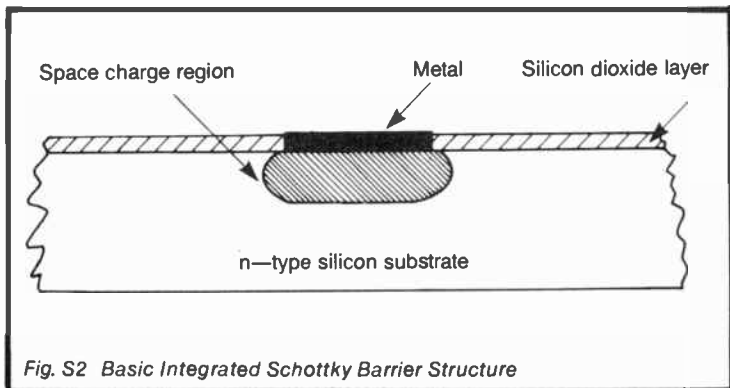

Fig. S2 Basic Integrated Schottky Barrier Structure
**SCHOTTKY DIODE (SCHOTTKY BARRIER DIODE)** is a diode incorporating the rectifying action of a Schottky barrier formed from the junction between a metal and a semiconductor. This type of diode is very suitable for integration, for example, using aluminium as the metal and n-type silicon as the semiconductor. How simple an integration arrangement can be is shown in Figure S2. A forward bias applied to the diode (positive to the metal) lowers the barrier height and so allows majority carriers with sufficient energy